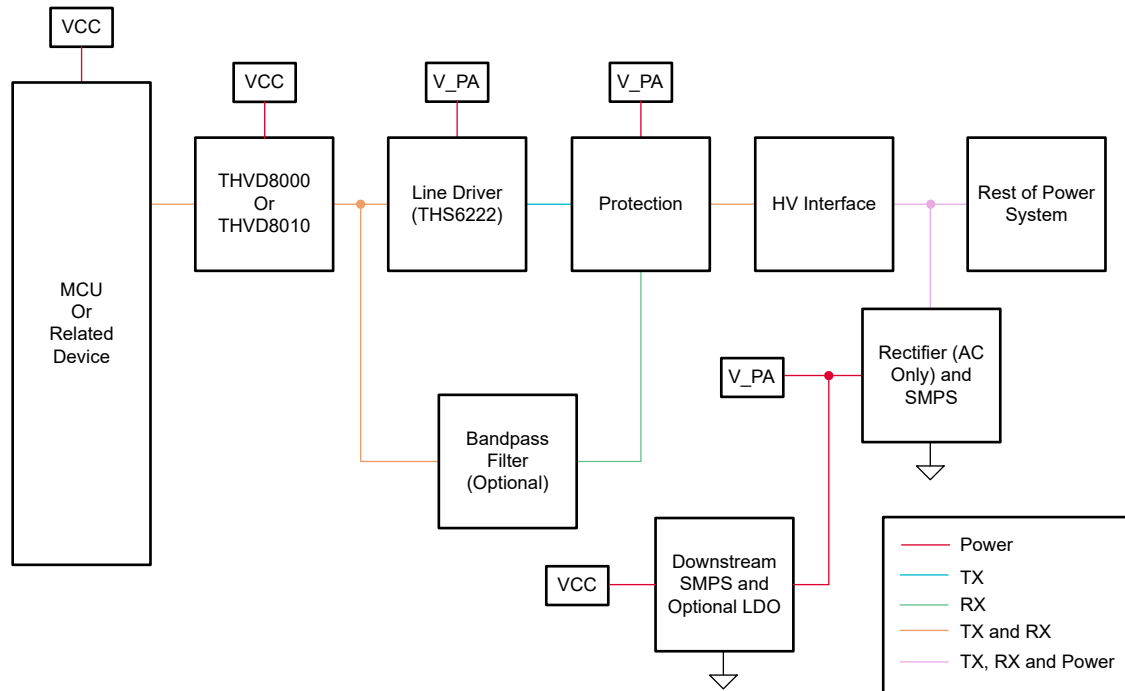
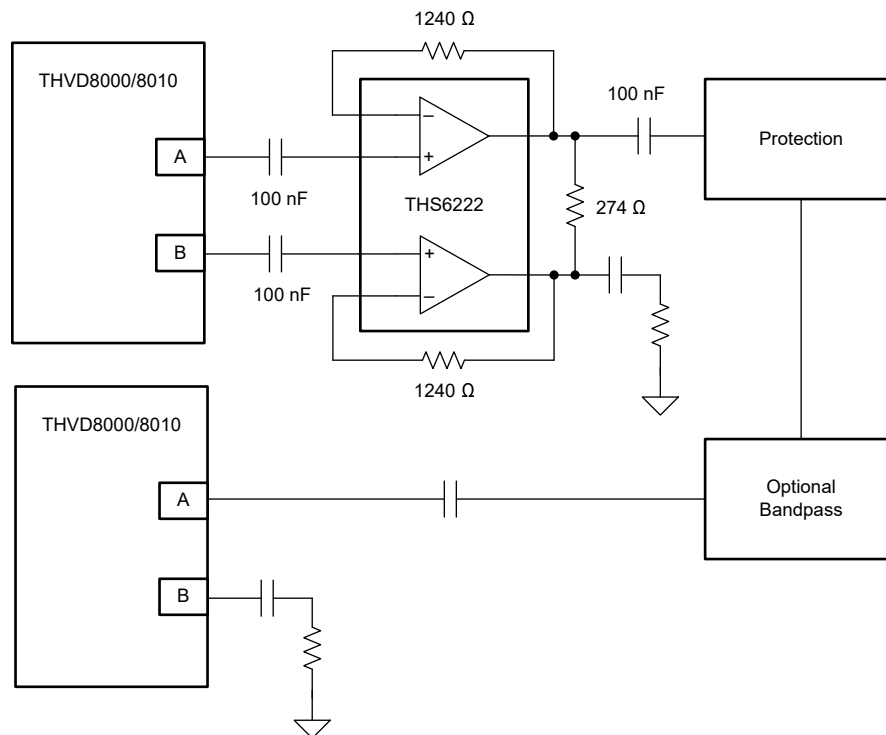
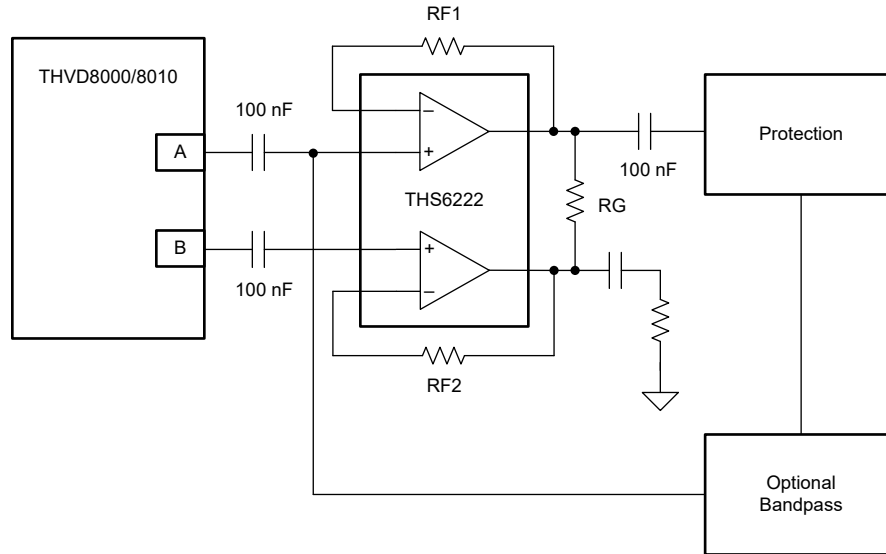

Figure 1-2. System Implementation 2
Figure 3-1. Integration of 2x THVD80x0 Devices with THS6222
Figure 3-2. Integration of 1 THVD80x0 Device with THS6222
Figure 1-1 and Figure 1-2 show two possible architectures for implementing RS-485 communication over low impedance - down to 1 Ω - power lines. Both architectures are independent of powerline voltage as long as the high voltage (HV) interface can isolate the communication lines from the direct power lines of the system.
Figure 1-2 offers an alternative architecture that can reduce BOM cost by only using one THVD8000/THVD8010 device.
The addition of a line driver to the system is straight forward when using the THS6222 and the THVD8000. For all higher voltage interface systems, regardless if they are 110 V or 600 V, can be implemented in either configuration shown in Figure 1-1 and Figure 1-2. Figure 3-1 and Figure 3-2 show how to connect the signal pathways between the THVD8000 and the THS6222.
Both systems shown, operate in a similar way. For ease of design and less potential issues with integration the approach in Figure 3-2 is best; however, it is possible to use Figure 3-2 to achieve the same end goal with less THVD8000 Transceivers. Not shown, in the previous figures, is the integrated common mode buffer of the THS6222 which DC-couples the inputs to mid-supply of the device.
This mode table is accurate regardless if you are using the implementation from Figure 3-1 or Figure 3-2